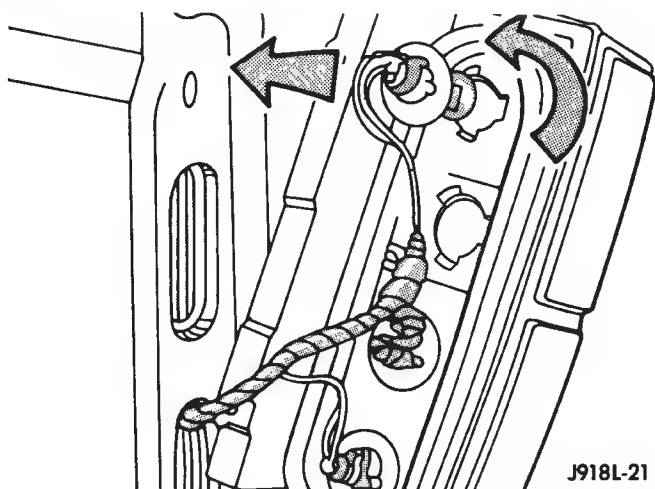

Fig. 17 Bulb Socket Removal
(2) Rotate the bulb socket one-third turn and remove the bulb socket from the lamp housing (Fig. 17).